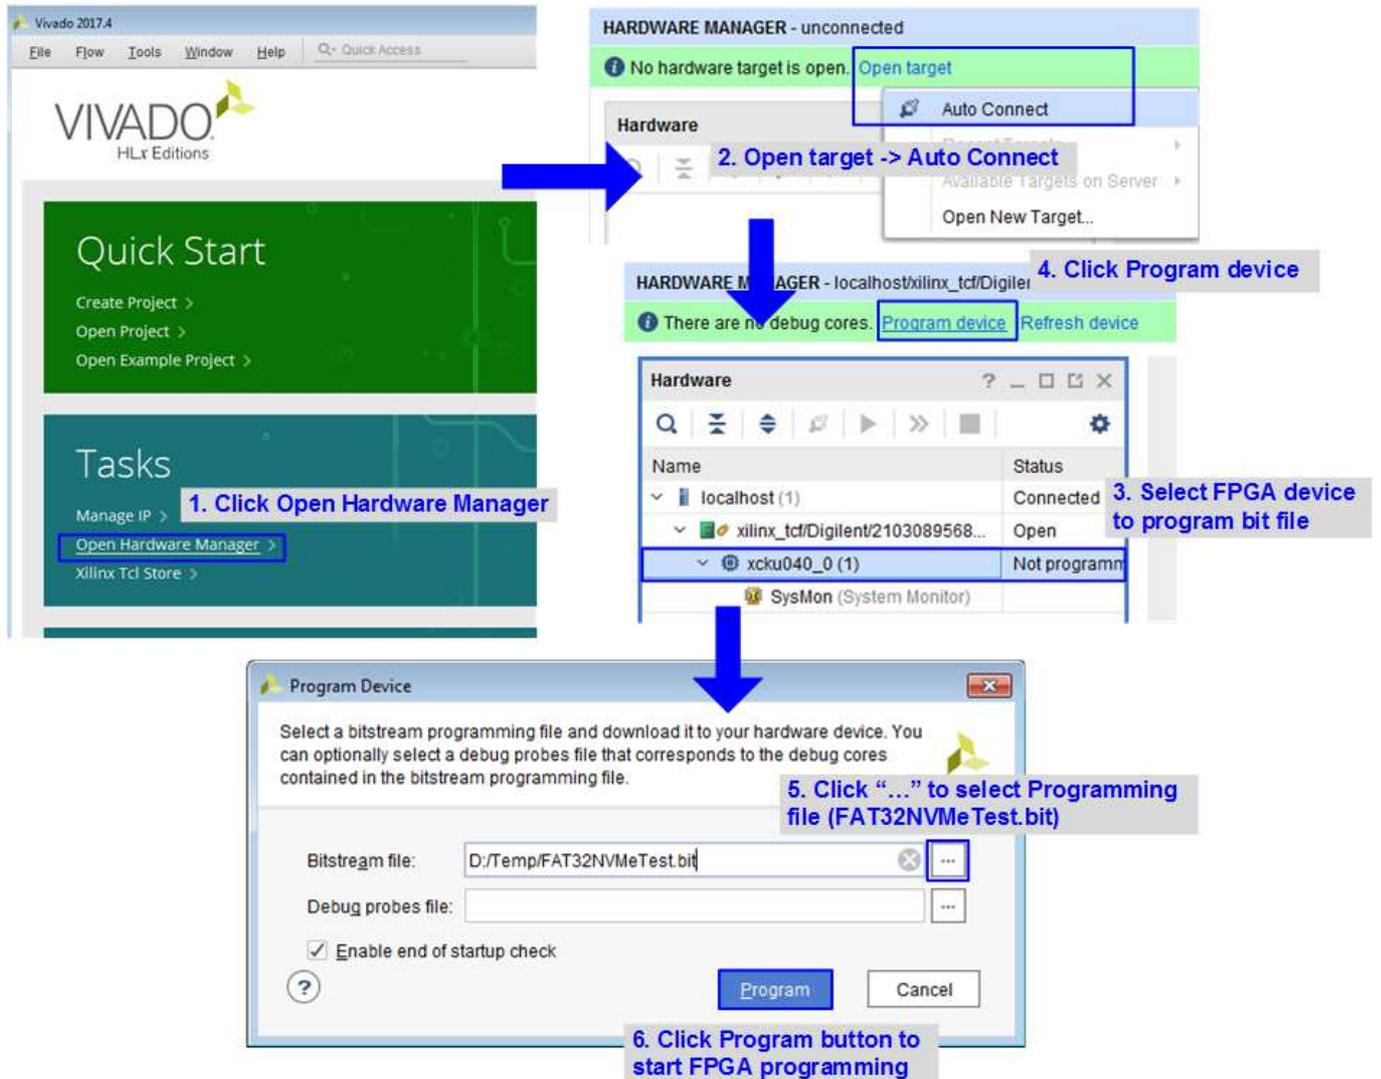

Figure 2-9 Download configuration file by Vivado tool for KCU105
b) For KCU105 board, use Vivado tool to download configuration file, as shown in Figure 2-9